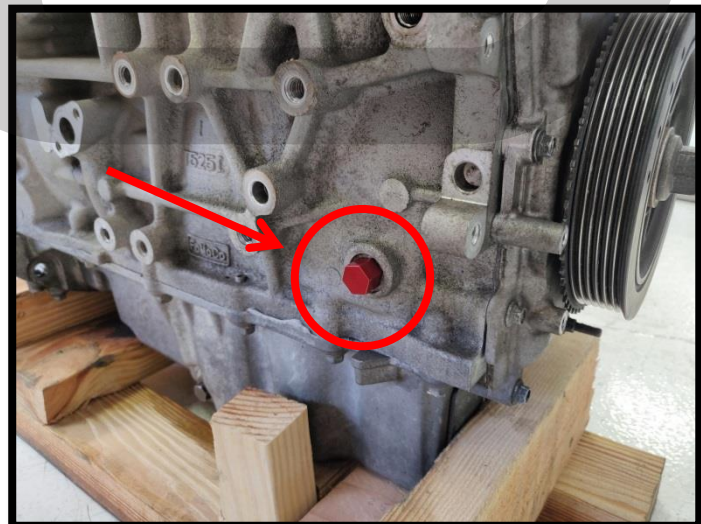

Figure 1b
- e) Remove the crankshaft timing pin using the 14mm wrench. See Figure 1b.